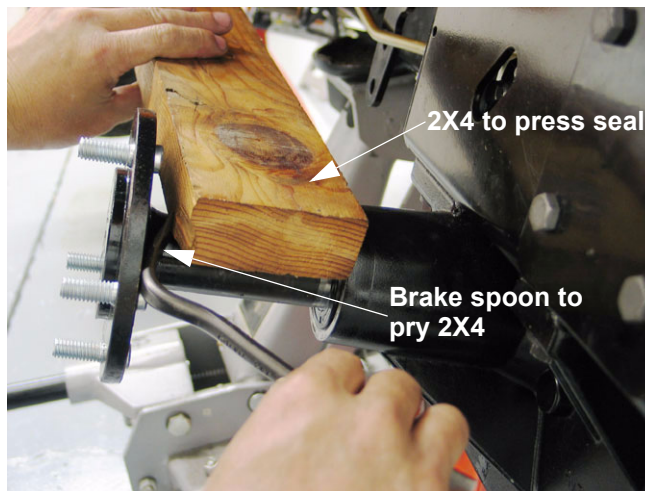

Figure 3.5
- 3.5. Carefully pry the seal into the bore. Use a piece of dimensional lumber, or similar object to press with. This will ensure that the seal is pressed in evenly, and winds up flush with the outer surface of the housing. A brake adjustment spoon or similar tool can be used to apply force to the item used to press the seal in. See Figure 3.5.